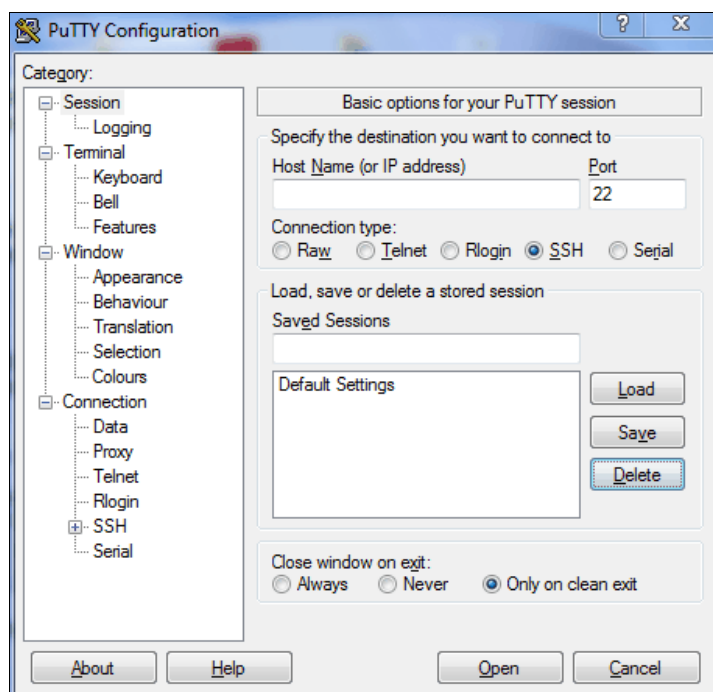

Figure A-10 PuTTY
1. Start PuTTY, as shown in Figure A-10.
5. From the Category pane on the left side of the PuTTY Configuration window, click **Session** to return to the Session view, as shown in Figure A-10 on page 616.